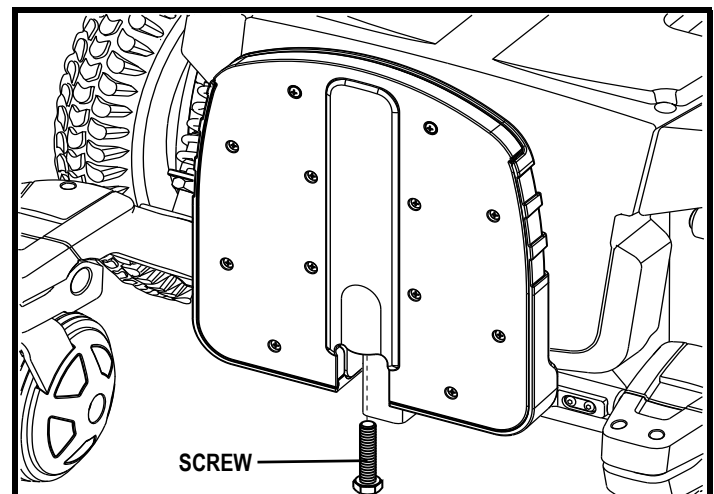

Figure 23. Underside of Foot Platform
1. Flip up the foot platform and locate the screw. **See figure 23.**